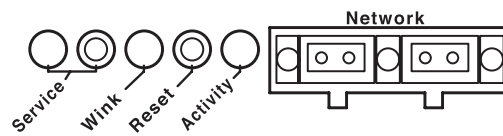

Figure 3.3. RMS section of the user panel
The RMS section of the user panel has three LEDs and two buttons (Figure 3.3).
**NOTE:** The LEDs and buttons on the RMS section of the user panel shown in Figure 3.3 are used exclusively by RMS, and have no effect on the acoustical and/or electrical activity of the M2D/M2D-Sub loudspeaker itself – unless Mute or Solo is enabled at the module and from the RMS software.